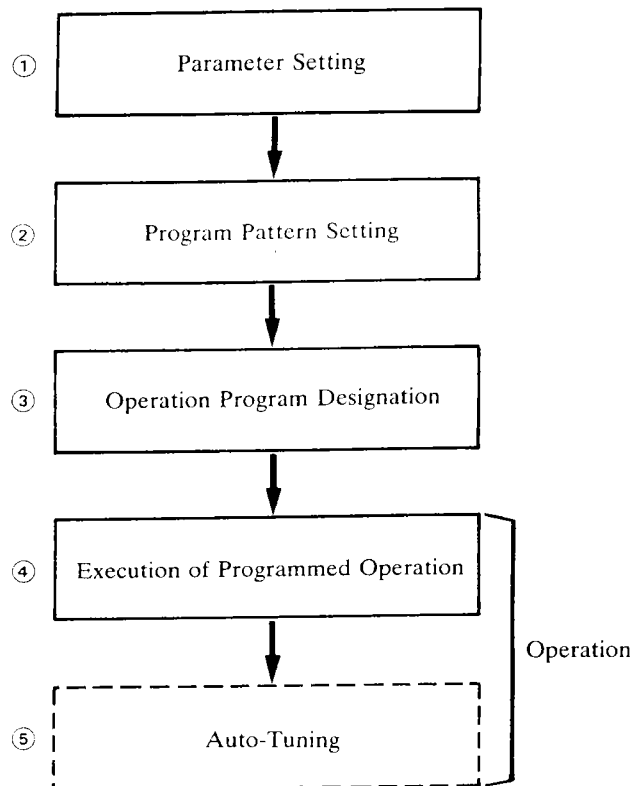

Figure 9.1 Outline of Programmed Operation
For programmed operation of UP30 Controller, it is required to complete settings shown in ①, ②, and ③ in Figure 9.1. After setting, the controller is operated as shown in ④ and ⑤ in Figure 9.1. Flow of settings ①, ②, and ③ is described in Chapter 10. SETTING in more details. In this chapter, outline of the contents of those settings is described.